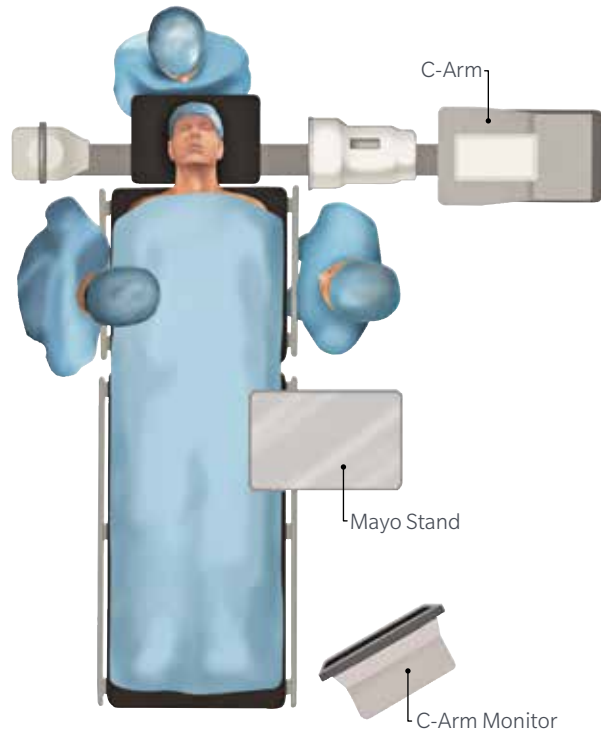

Figure 1
- Position and drape the patient in the usual fashion (Figure 1).